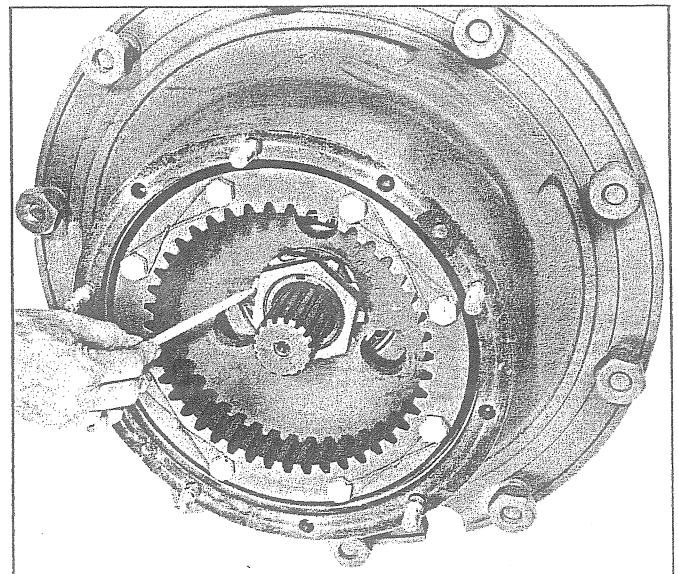

Fig. 6 - View Showing Spindle Nuts and Tang
4. Straighten the tangs on the lock which secures the spindle nut. See Fig. 6.